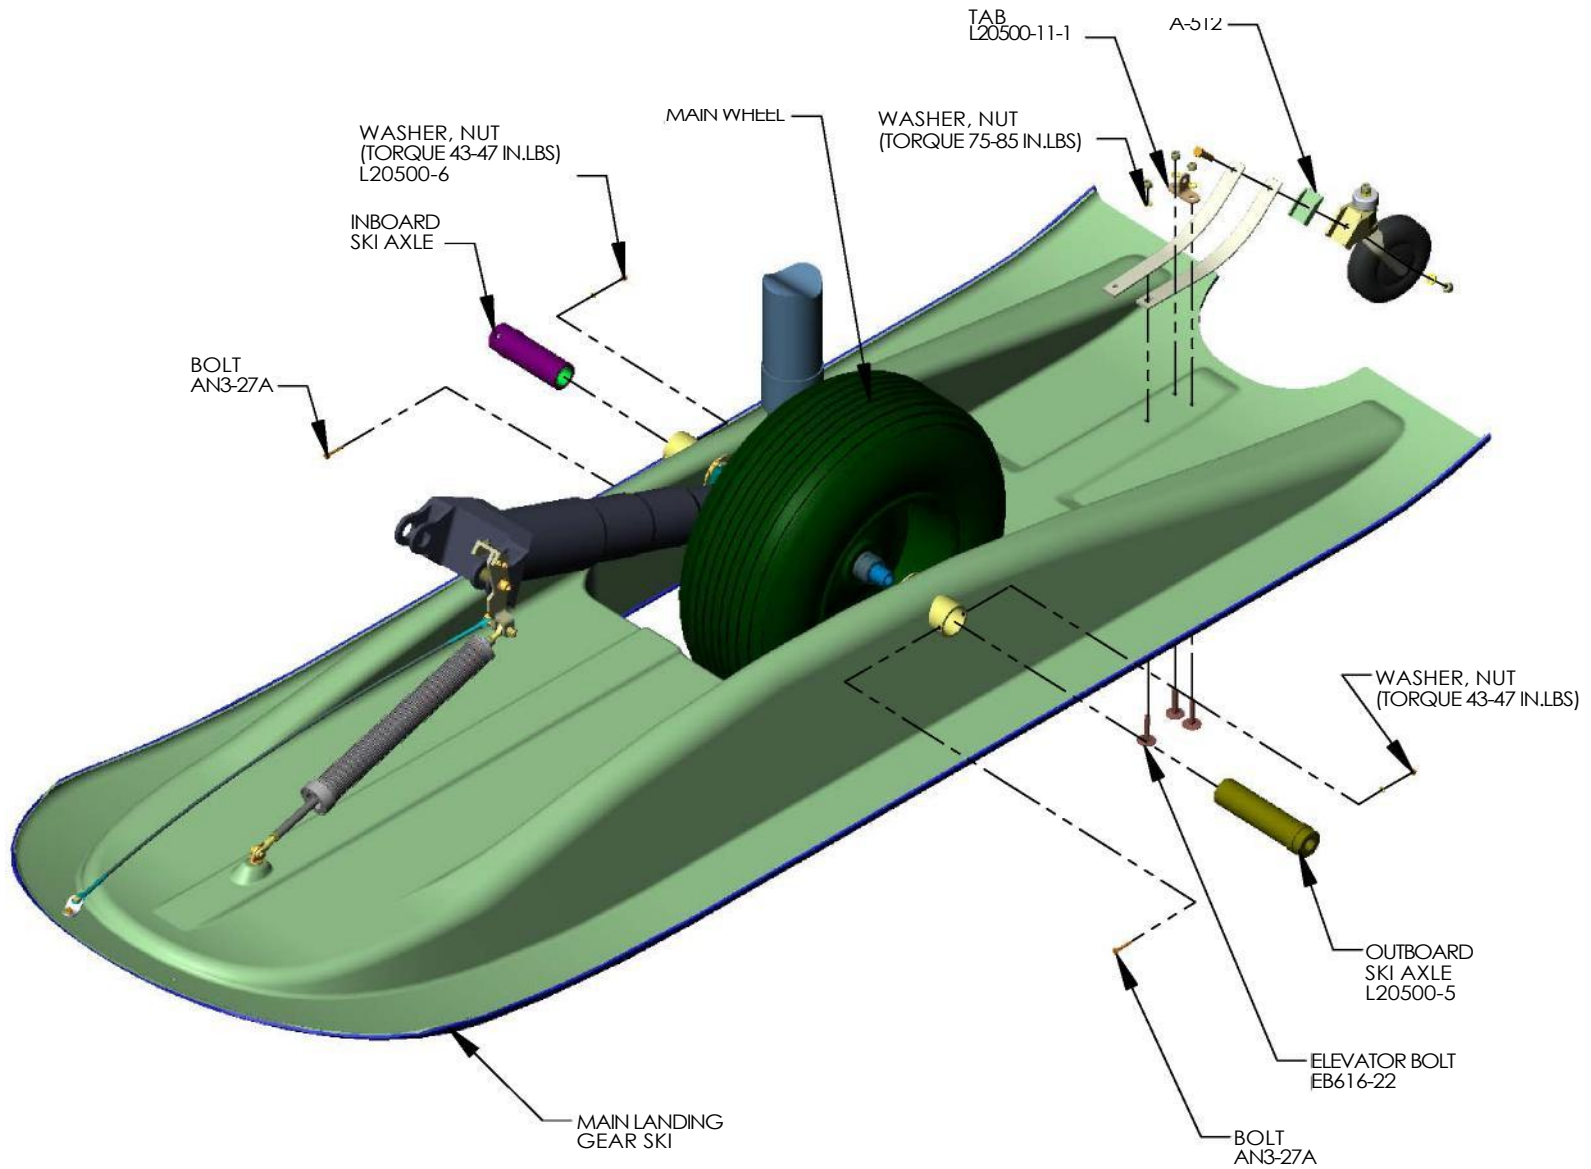

FIGURE 5
- t. Install bolts through inboard and outboard axles and ski (Figures 5, page 8). Install washers and nuts on bolts. TORQUE NUTS TO 43 – 47 INCH-POUND.
- u. Install rear check cable to fuselage tie down fitting eyebolt using clevis pin and cotter pin. (Figure 5, Page 8).
- ee. Remove screw and washer holding Adel clamp to ESSS fairing and remove clamp and bungee cord (Figure 5, page 8, Detail D). Reinstall screw and washer.
- ff. Remove clevis pin and cotter pin holding rear safety cable to fuselage tie down fitting and remove cable (Figure 5, page 8).
- jj. Remove bolts, washers, nuts, and tab on rear safety cable from tail wheel assembly (Figure 5, page 8).